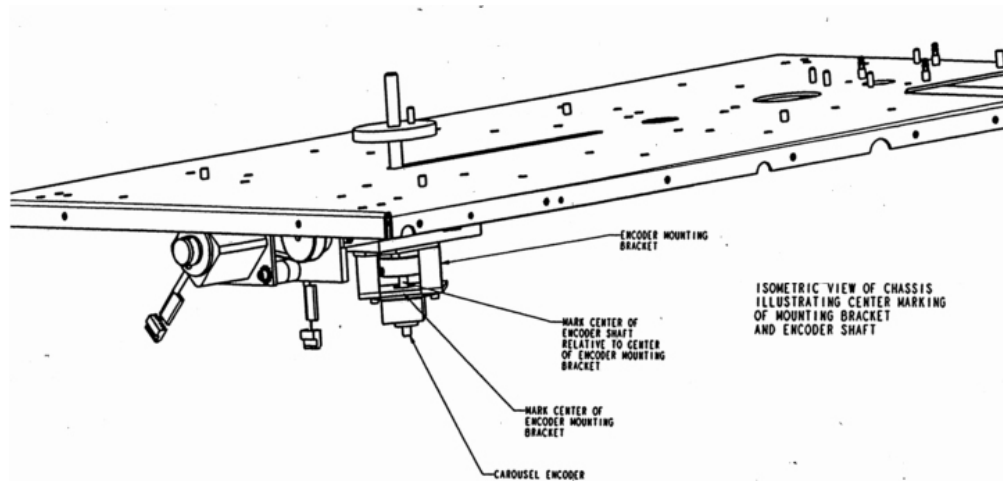

Figure 6-18: Encoder Bracket and Shaft
3. Mark the center of the encoder shaft with respect to the center mark that you made on the bracket. See Figure 6-18.